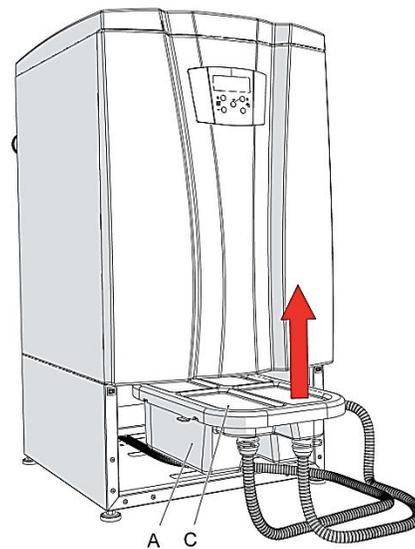

Figure 10-10: Open Cover
5. Open the neutralizer tank cover “C” per Figure 10-10, and inspect the collection tank for wear or damage.